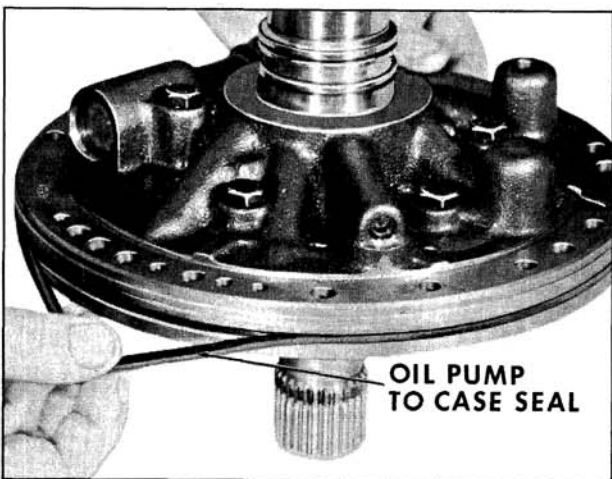

Fig. 6-422 Installing Oil Pump to Case Seal
4. Install new oil pump to case seal. (Fig. 6-422)